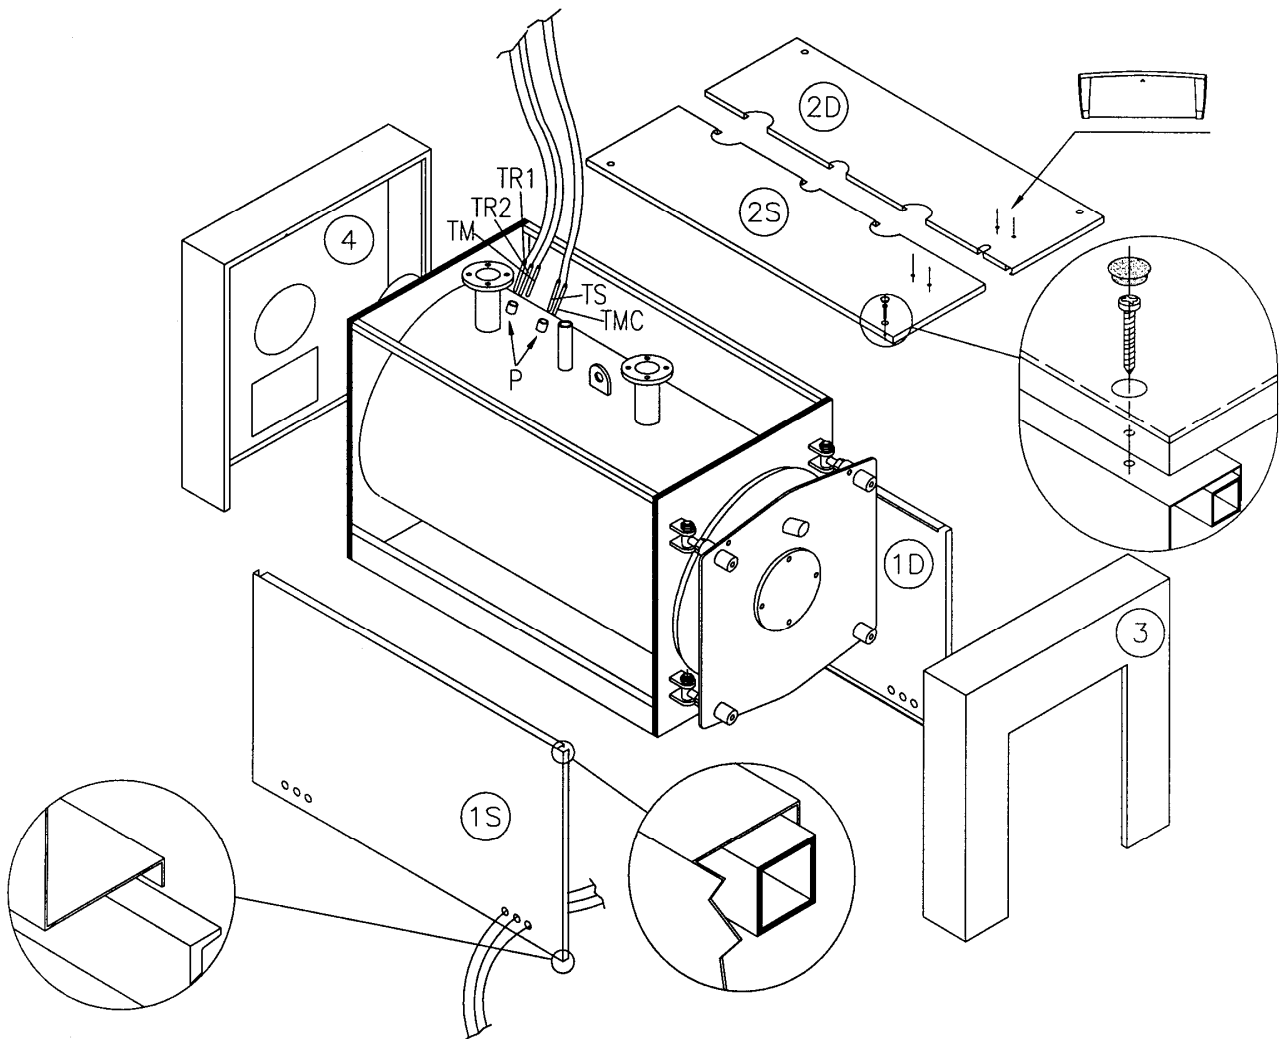

Fig. 8
4.2 RCB 3S/RCB 3S M 70÷400 BOILER CASINGS (Fig. 8)
- a) Wrap the glass wool around the boiler body leaving the bulb well (P) on the right side exposed.
- g) Fit panels (3) and (4) connecting them to the side panels.